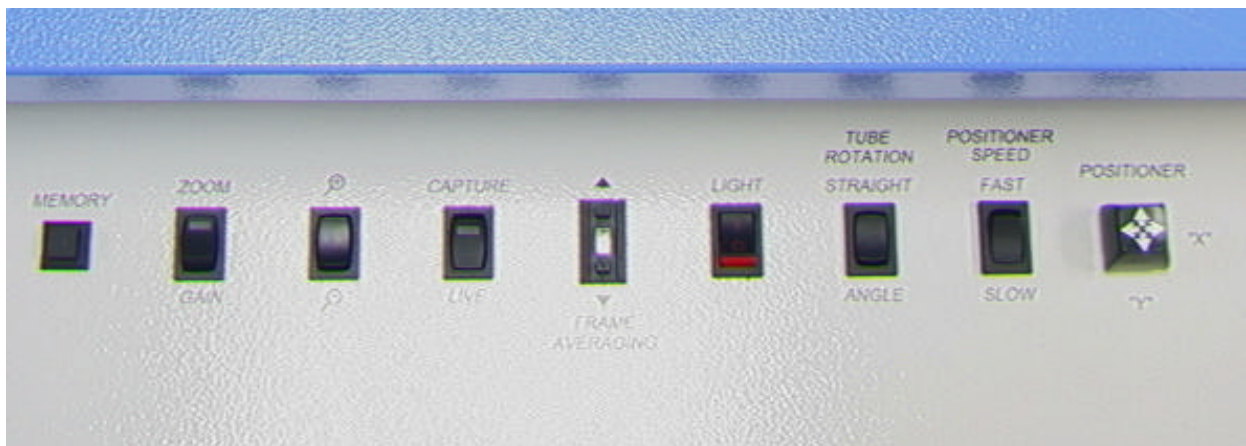

Figure 3: XR 4000 Control Panel
1. The camera is controlled through the button and two switches mounted on the XR 4000 control panel. See Figure 3.
The camera operates in either the ZOOM control mode or the GAIN control mode; set by the rocker switch on the control box panel. See Figure 3. To adjust the image magnification, place the control switch in the ZOOM setting. The camera magnification is controlled by the +/- rocker switch. Press the rocker in the + direction to increase the magnification. Press the rocker in the - direction to decrease the magnification.
The RTVA is adjustable by using the front mounted switch marked "FRAME AVERAGING". See Figure 3. This adjusts the amount of frames that the RTVA averages before sending the video out to the monitor. When using the switch, please note the following frame averaging settings:
The RTVA image processor also has a "CAPTURE" ability that is designed to hold the current image. To use this option, just switch the front-mounted CAPTURE/LIVE switch to the "Capture" position. See Figure 3. To return to normal operating mode, return the switch to the "LIVE" position.